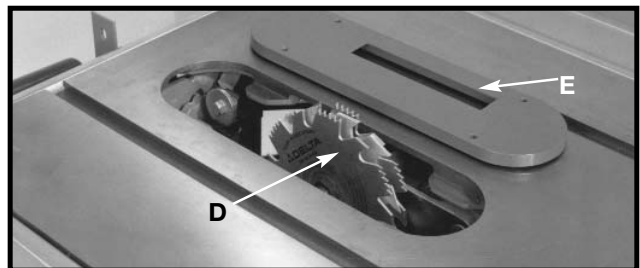

Fig. 47
2. Attach the dado head set (D) Fig. 47, to the saw arbor.
**CAUTION** THE DADO HEAD SET TABLE INSERT (E) FIG. 47, MUST BE USED IN PLACE OF THE STANDARD TABLE INSERT. THIS IS AVAILABLE AS A SERVICE PART THROUGH A BLACK & DECKER SERVICE CENTER.